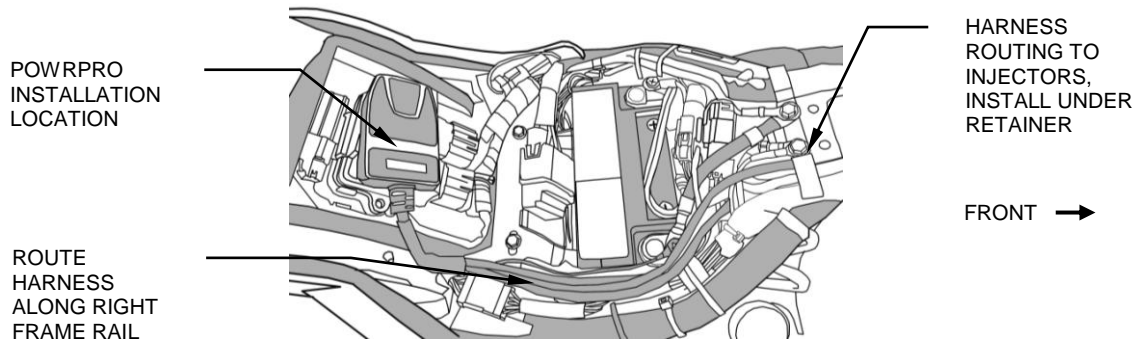

FIGURE 2
3. Lay the Powrpro module in the area underneath the seat, do not attach it to the motorcycle, route the injector wire harness forward up the right side of the frame backbone, see Figure 2. The harness can be secured using the existing zinc colored harness retainer. Place the injector harness in the plastic loom tray along the right side of the frame backbone. Route the forward set of connectors to the front injector.
9. Reinstall the battery, attach the positive lead, and then the negative along with the black ground wire from the Powrpro tuner, see Figure 2.
11. Remove the backing from the Velcro and attach the Powrpro as shown in Figure 2.